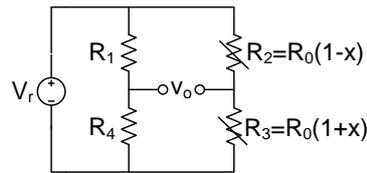
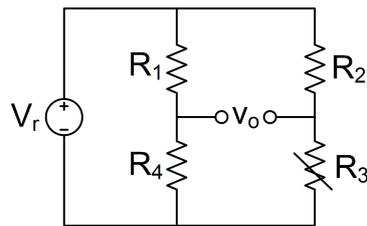

Figure 4: Electrical equivalent circuit of the MAP sensor.
Figure 5: Bridge with one strain gauge.
Figure 4 shows the electrical equivalent circuit of such a MAP sensor with two strain gauges. In addition to the strain gauges, the circuit contains also two fixed resistors. The Young's modulus of the membrane,  $E$ , is equal to  $210 \cdot 10^9 \text{ N/m}^2$ . When unloaded, all four resistors have a resistance of  $350 \Omega$ . The strain gauges have a gauge factor of 2.10. To prevent any damage to the strain gauges, the current through them should be limited to  $10 \text{ mA}$ .
- The use of a bridge with two strain gauges might be too expensive for some applications. Therefore, the circuit shown in Figure 4 can be replaced with a circuit that contains only one strain gauge (see Figure 5). This strain gauge has a resistance of  $350 \Omega$  when unloaded and a gauge factor of 2.10. The resistance of this strain gauge is given by  $R_3 = R_0(1 + x)$ . The maximal pressure that can be applied to this strain gauge is 98.0 MPa. The strain gauge is used in a bridge circuit with three fixed resistors (see Figure 5). The resistors  $R_1$ ,  $R_2$  and  $R_4$  all have a resistance of  $350 \Omega$ . The supply voltage of the bridge,  $V_r$ , is equal to 7 V. The output voltage of this circuit will show a non-linearity because the circuit contains only one strain gauge. What is the maximal relative error when the output voltage of the bridge ( $v_o$ ) is assumed to have a linear dependency on the stress  $y$  with a sensitivity equal to the sensitivity at  $y = 0$ ?